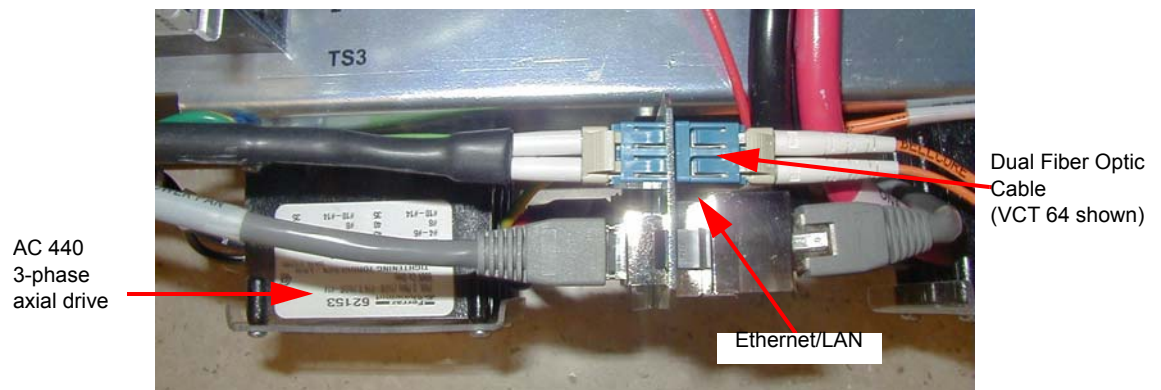

Figure 2-24 Close-up of Power Pan Bulkhead
- Both cables should click into place when they are connected (see Figure 2-24).